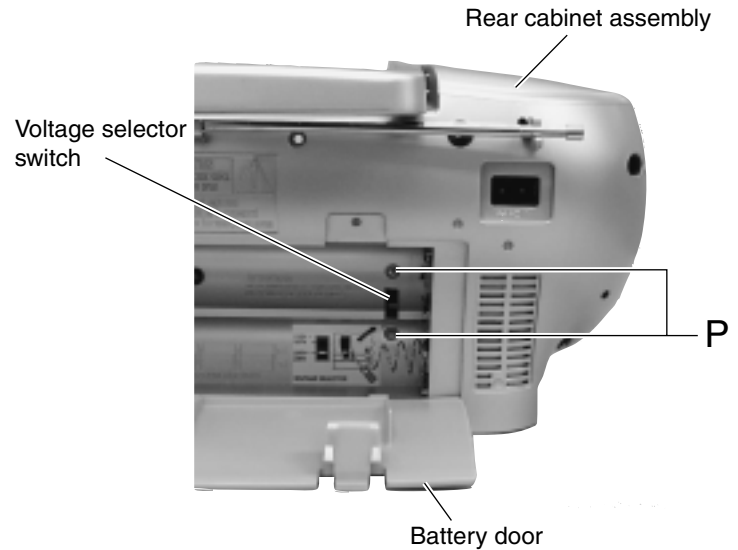

Fig.18
(See Figs.18 to 20.)
1. From the rear side of the rear cabinet assembly, remove the battery door. (See Fig.18.)
2. Remove the two screws **P** retaining the voltage selector switch. (See Fig.18.)